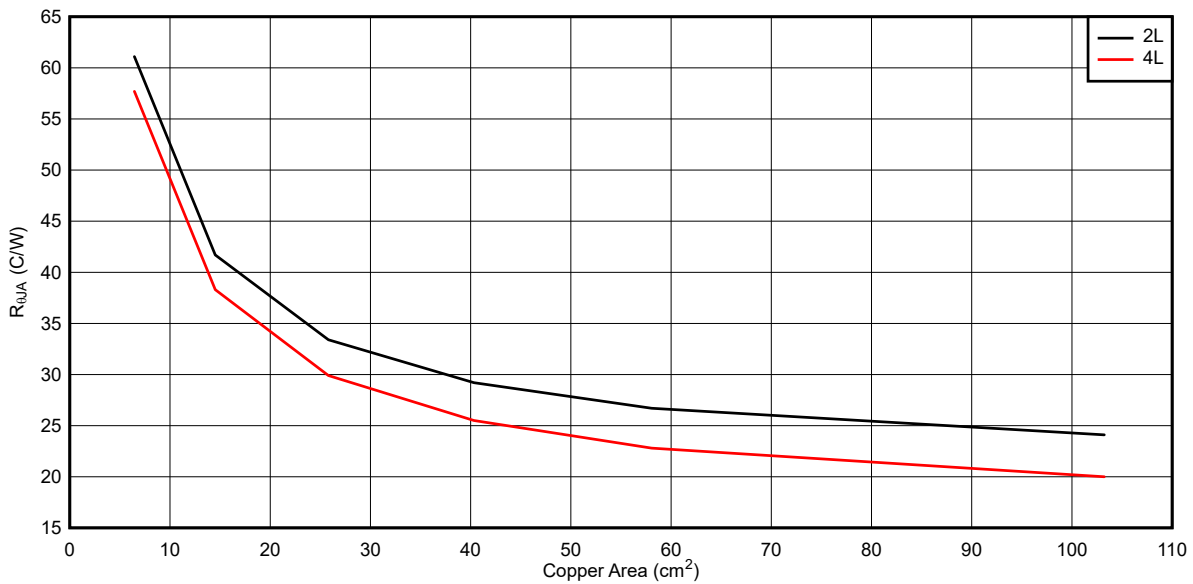

Figure 8-33. Typical $R_{\theta JA}$ Versus Copper Area for DDA package
The LM516x features a die attach paddle, or "thermal pad" (EP), to provide a place to solder down to the PCB heat-sinking copper. This provides a good heat conduction path from the regulator junction to the heat sink and must be properly soldered to the PCB heat sink copper. Typical examples of $R_{\theta JA}$ can be found in Figure 8-33 and Figure 8-34. The copper area given in the graph is for each layer. The top and bottom layers are 2-oz copper each, while the inner layers are 1 oz.
Remember that the data given in Figure 8-33 through Figure 8-36 is for illustration purposes only, and the actual performance in any given application depends on all of the previously mentioned factors.